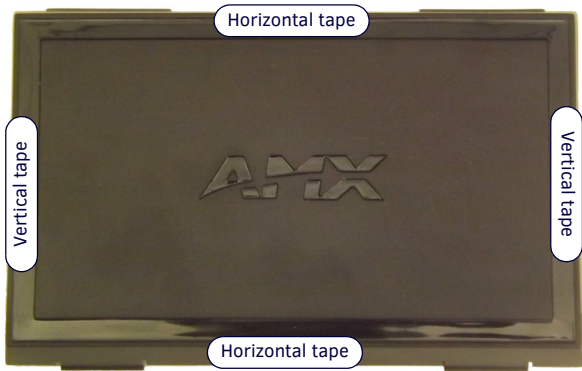

FIG. 5 PLACEMENT OF ADHESIVE TAPE ON THE BACK BOX
- Each Multi Mount Kit comes with two sets of strips of adhesive tape, attached to the back of the Back Box (FIG. 5). Carefully peel the backing from the tape strips.